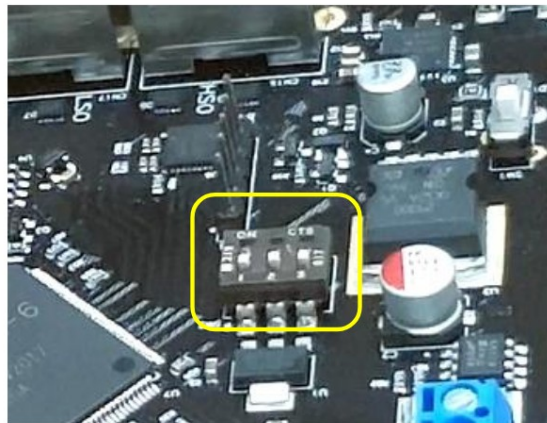

Figure 3. On-Board DIP Switches Set To FPGA Update Configuration
The FPGA update is very simple and can be done within a couple of minutes. It is also permanent, since on-board memory holds up to seven (7) different FPGA configurations. Users can choose the FPGA configuration for their application by on-board DIP switches (Figure 3). Depending on the programmed configurations, the Pixblasters MS1 can be setup in the master or slave mode, to support 3-wire WS2812B-like, 4-wire APA102-like LED strips and WS2812B LED panels.
- Set the on-board DIP switches to 000 (Figure 3). This activates the service mode and enables the FPGA update.